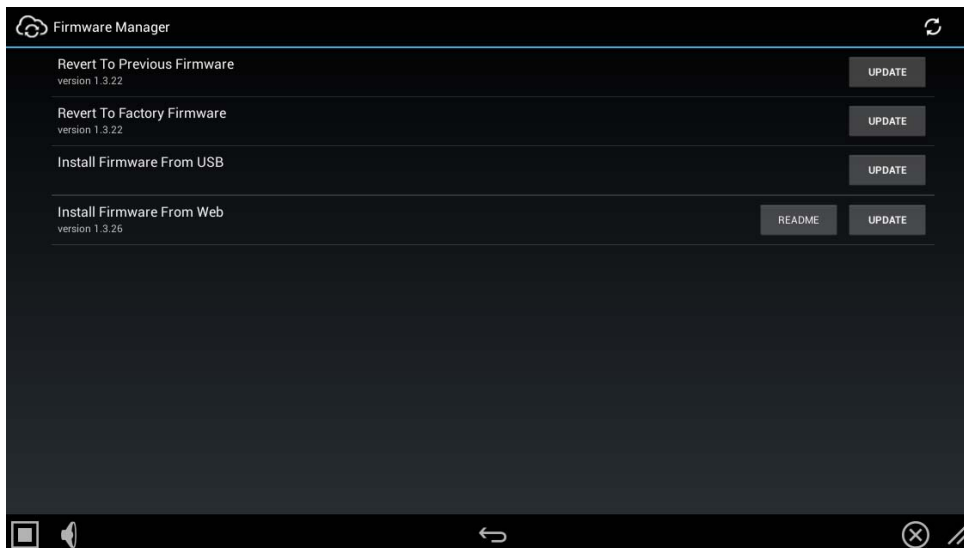

FIG. 92 Firmware Manager window
Select **Firmware Manager** under UPDATE MANAGER in the *Reset and Update* page to access the Firmware Manager page (FIG. 92):
1. From the *Firmware Manager* window (FIG. 92), select *Revert to Previous Firmware*. If no previous version is available, this field is disabled
1. From the *Firmware Manager* window (FIG. 92 on page 57), select *Revert to Factory Firmware*.
3. From the *Firmware Manager* window (FIG. 92 on page 57), select *Install Firmware from USB* to open the *KIT File Browser* window (FIG. 95).
If any firmware updates are available for the panel, the *Install Firmware From Web* option is presented on the Firmware Manager page (see FIG. 92 on page 57). Note that if High Security mode is set on the panel, web updates are not permitted. See the *SYSTEM - Security* section on page 51 for details on security modes.
1. From the *Firmware Manager* window (FIG. 92 on page 57), select *Install Firmware from Web*.